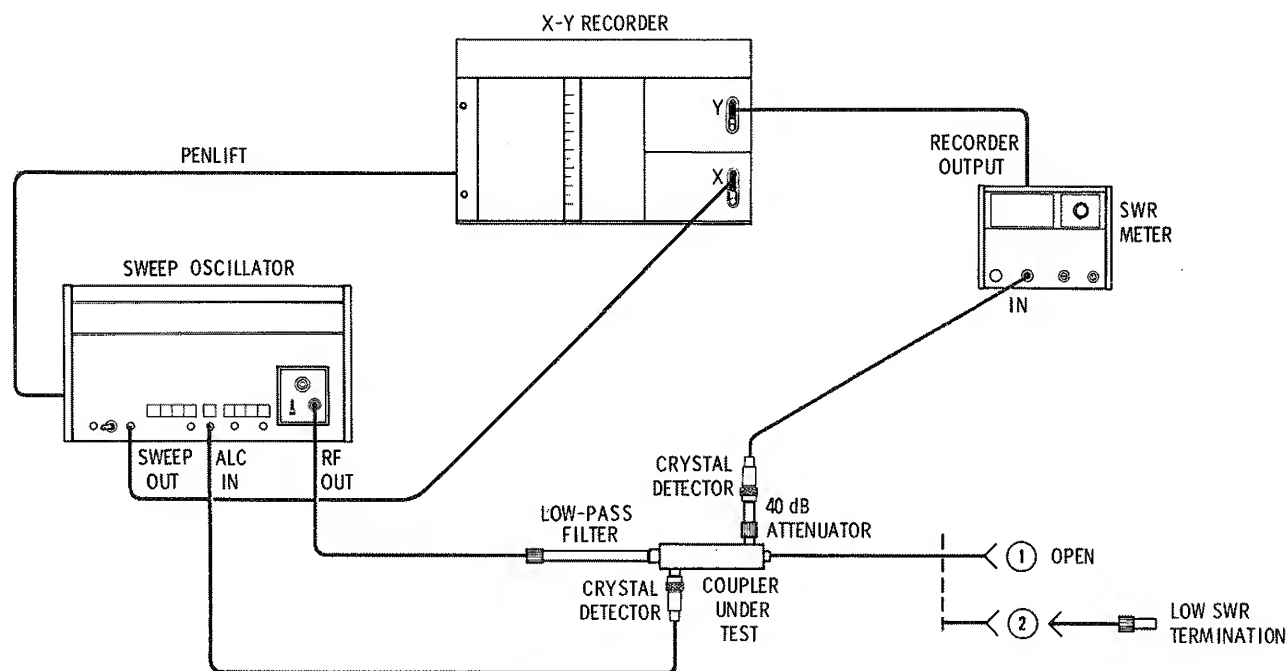

Figure 7. Swept-Frequency Directivity Test Setup
- a. Connect equipment as shown at (1) in Figure 7.
1. Connect the termination as shown in (2) in Figure 7. Note that this termination must have an $SWR \leq 1.01$. Do NOT use adapters, which will increase SWR, with this termination. If adapters are used, the results will be degraded.